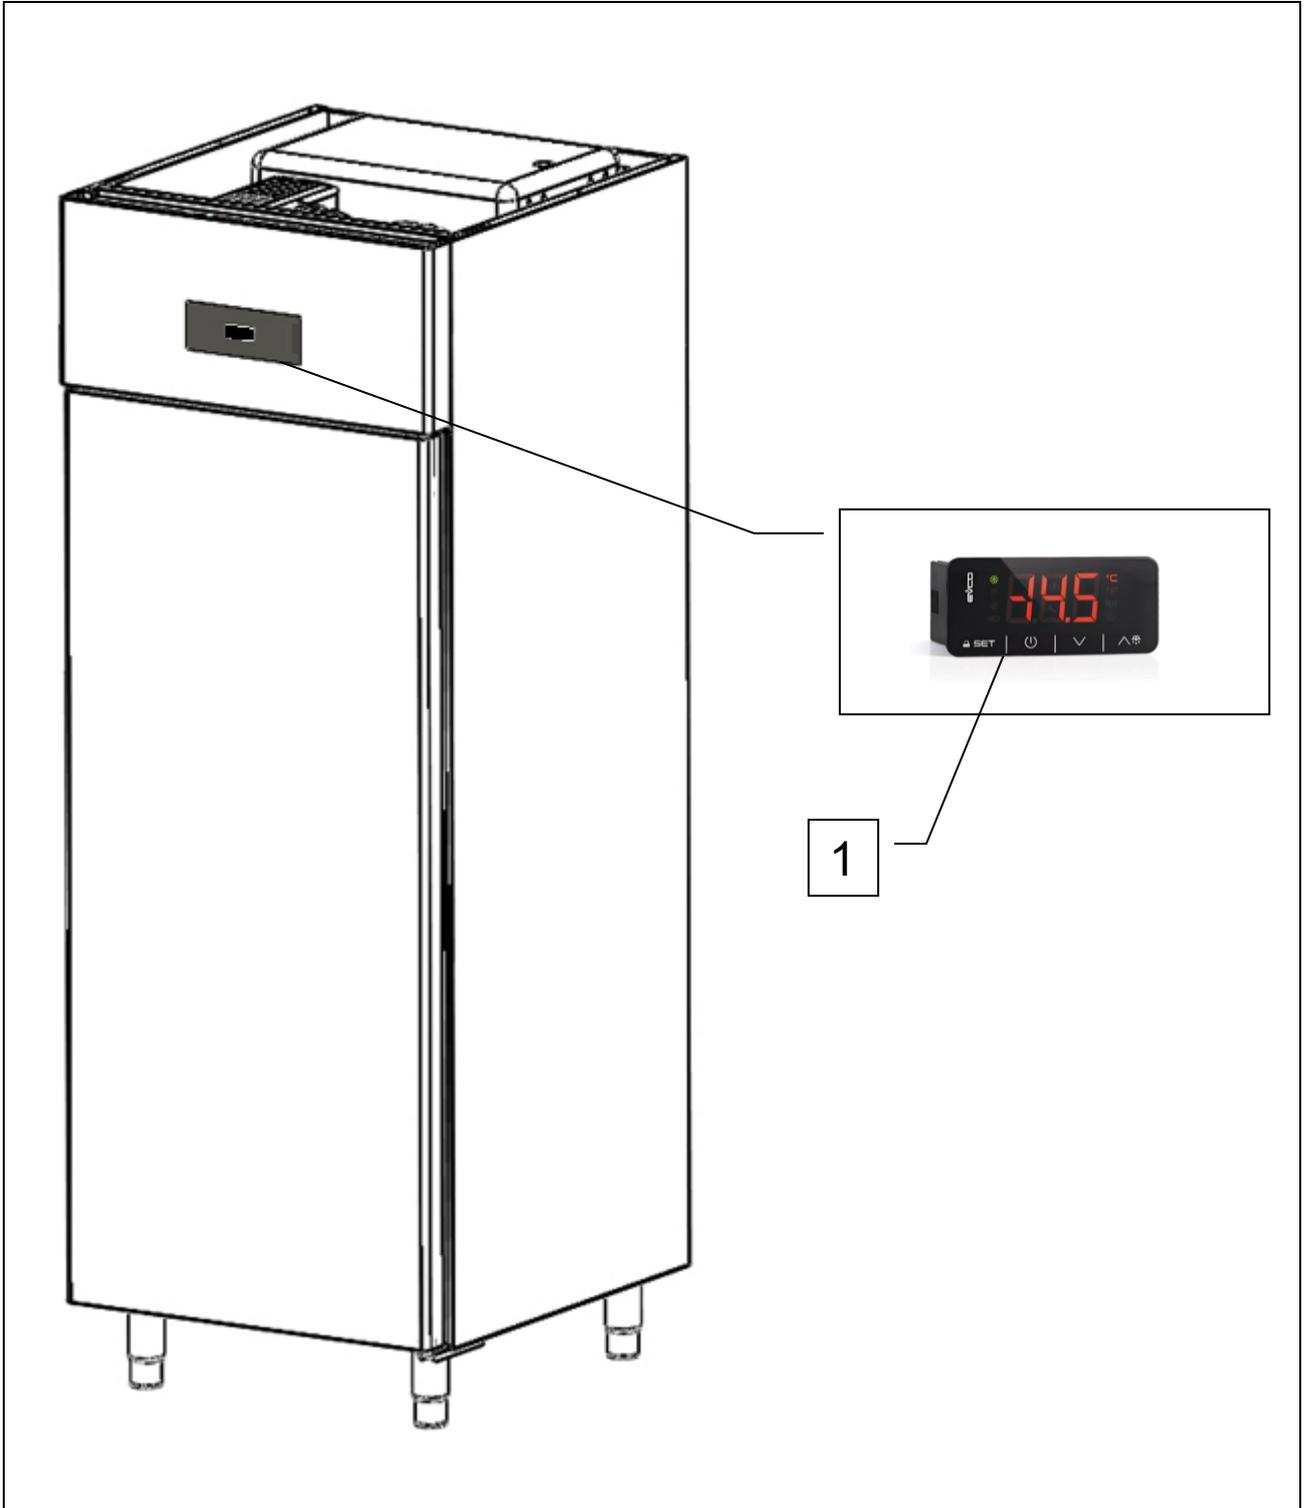

Fig. 3
The entire appliance is controlled by an electronic circuit board. The stop function is represented by the   button (ref. 1 fig. 3). In any state you can find the machine, after activating the keyboard by pressing and holding the set button for 3sec / lock, pressing the button   puts the card in OFF.